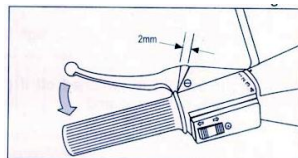

Fig. 23
- 3.1 Clutch lever:** Press the clutch lever towards the handlebar to disengage the clutch. (Fig. 23).
- 1.2 Check for correct play in the clutch lever (Fig. 23) and make sure that it operates properly.